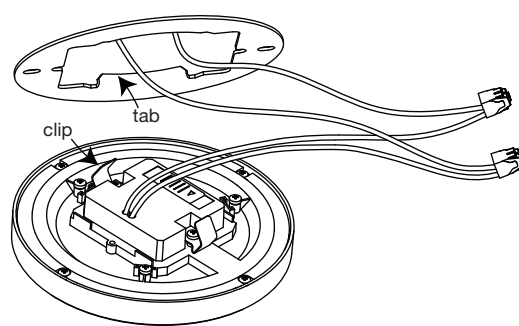

fig. 3
4. Connect the wires to the power source: black to hot and white to neutral, using the provided connectors. For 0-10V dimming, connect pink to pink (Dim -) and purple to purple (Dim +). (fig. 3)